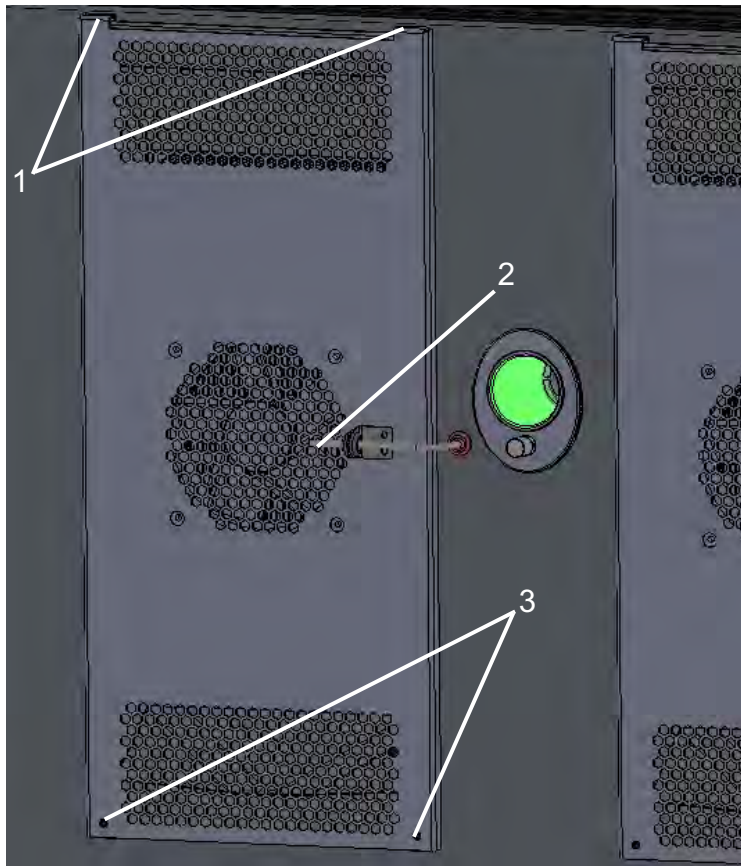

Figure 8-1. Cleaning Condensate Drain - 1
1. Pull the temperature sensor with the rubber sleeve (Figure 8-1, 2) out slightly and turn it slightly away from the left air baffle.
2. Loosen two bolts each (Figure 8-1, 3). Dismantle and remove the air baffles to the chamber interior rear wall by unhooking them from the upper hooks (Figure 8-1, 1).
6. Reattach the air baffles and screw them in place with two bolts each (Figure 8-1, 3).
7. Bend the temperature sensor (Figure 8-1, 2) back into place and reattach it.